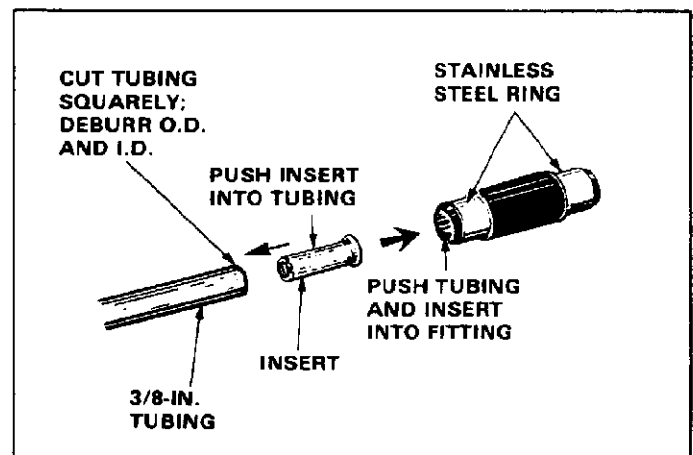

Fig. 2—Tubing Preparation
- (a) Cut tubing squarely. See Figure 2.
- (c) Push the insert, supplied with the fitting, into the tubing and then push the tubing fully into the fitting (Fig. 2).